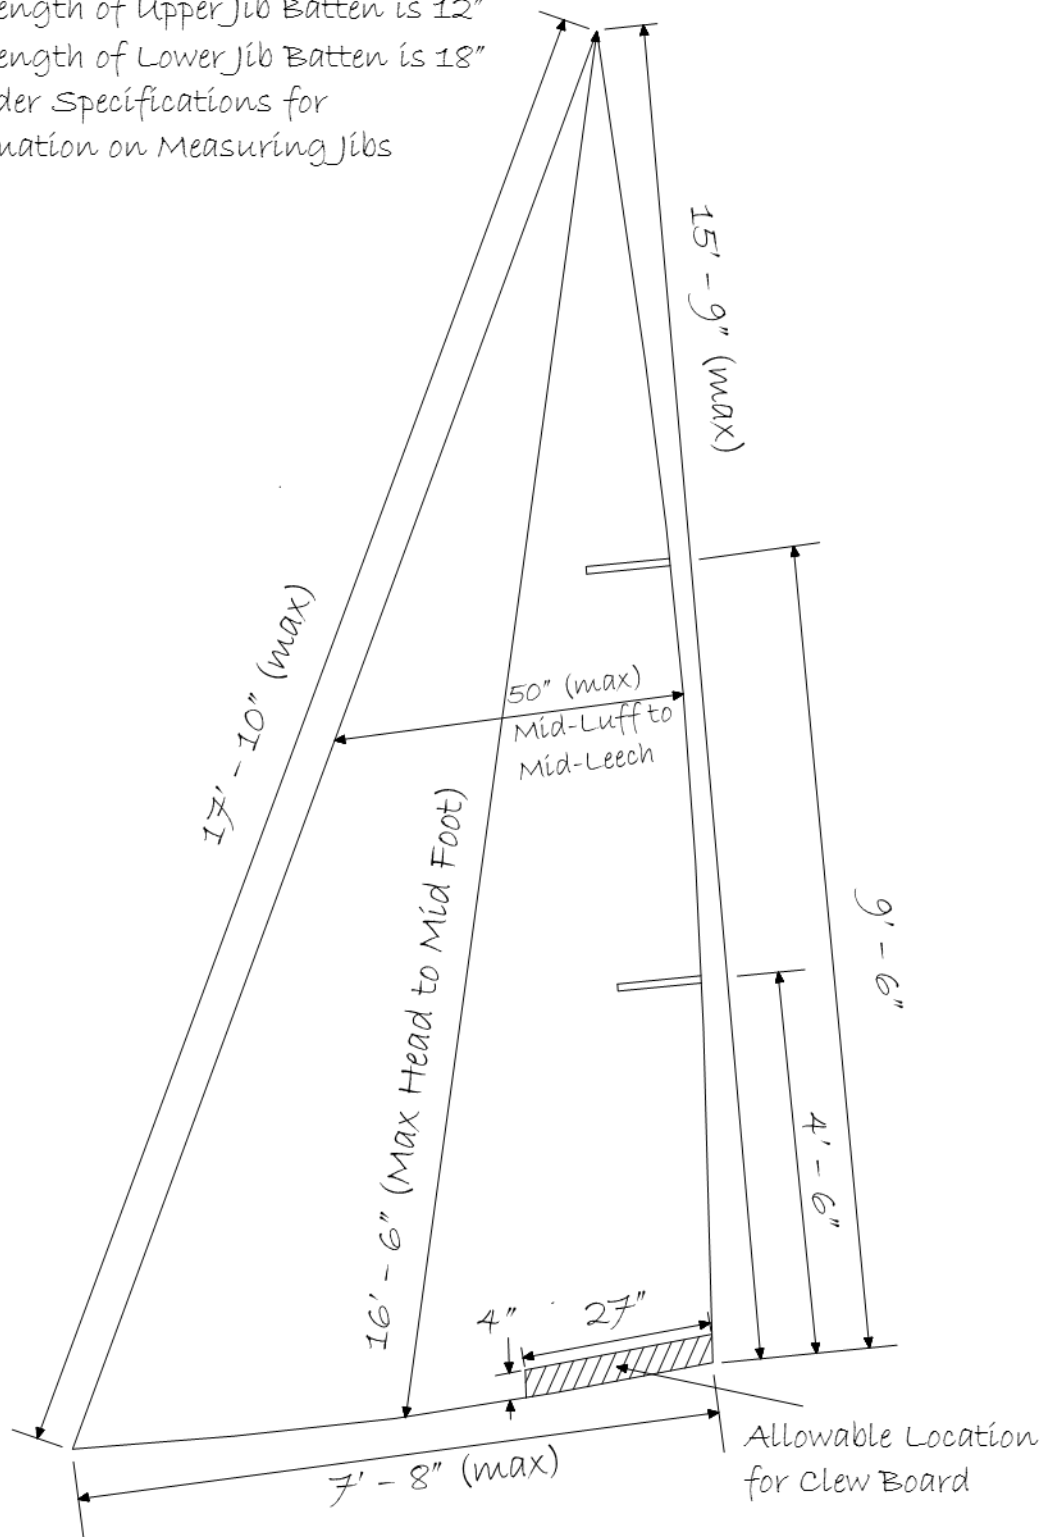
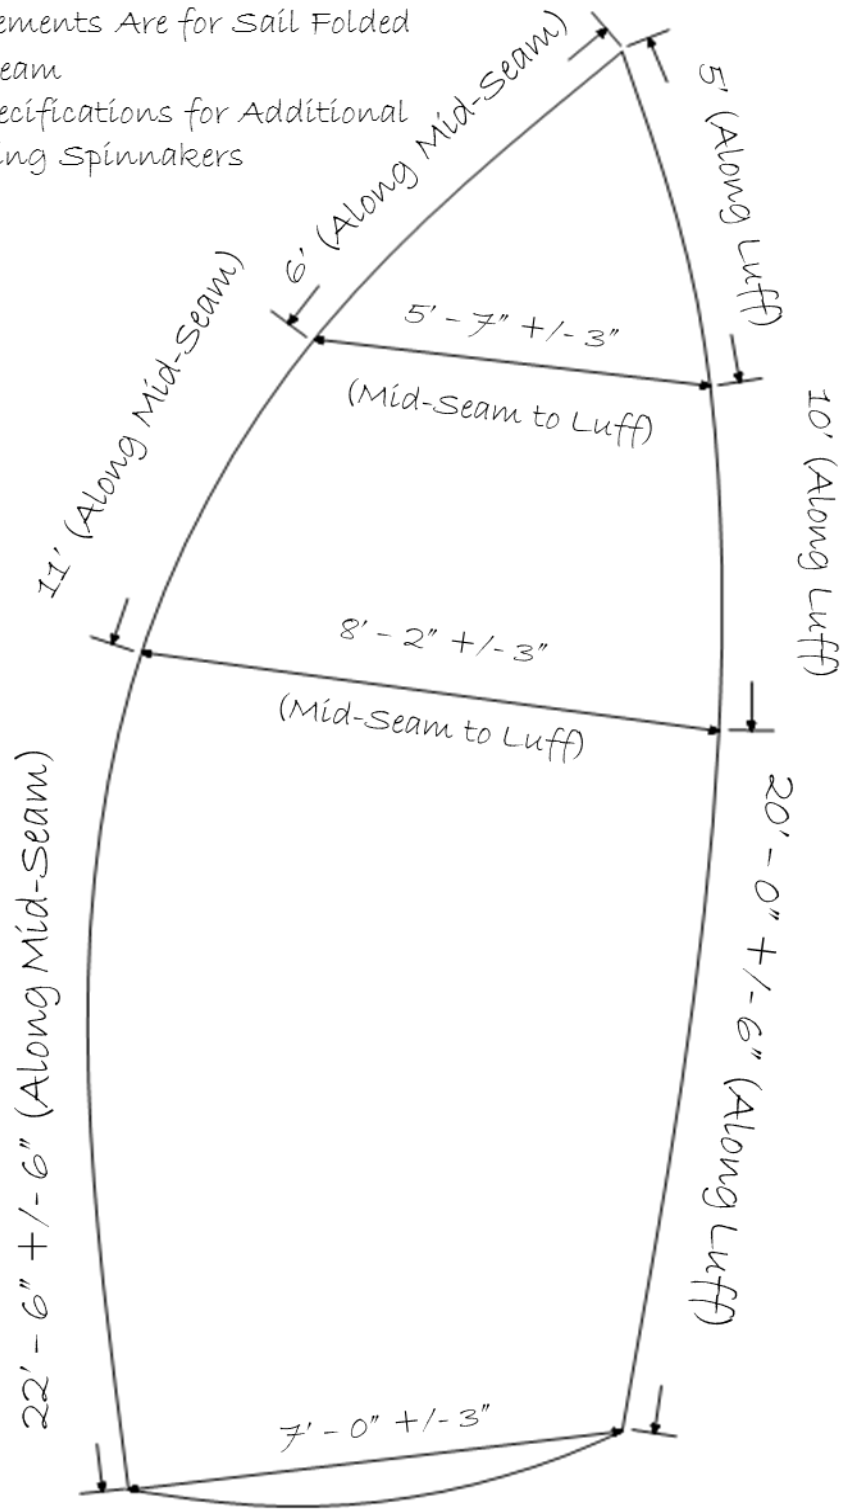

Figure 5 Jib Measurements
Figure 6 Spinnaker Measurements
- iii. There are no minimum measurements. Maximum measurements are as shown in Figure 5.
- v. Up to two battens as shown in Figure 5 are permitted.
- vi. A clewboard of any material is permitted in the jib, which shall be located as shown in Figure 5.
- vii. A minimum number of five (5) snaps or hanks equally spaced along 80 percent of the luff must attach the jib to the forestay.
- iii. Dimensions and tolerances are as shown in Figure 6.